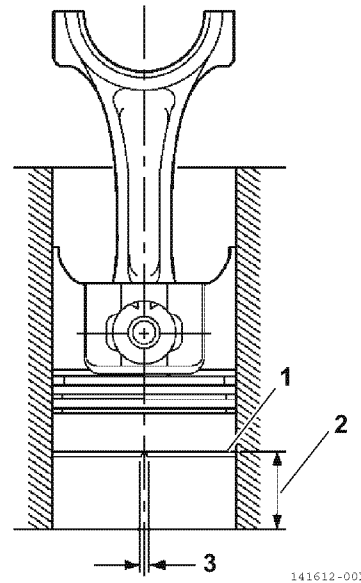

Figure 6-78
10. To measure piston ring end gap, insert each compression piston ring (1, **Figure 6-78**), one at a time, into the cylinder. Use a piston with the piston rings removed to slide the ring into the cylinder bore until it is approximately 1.18 in. (30 mm) (2, **Figure 6-78**) from the bottom of the bore. Remove the piston. Measure the end gap (3, **Figure 6-78**) of each piston ring. Record the measurements. See *Piston Ring* on page 6-11 for specifications.